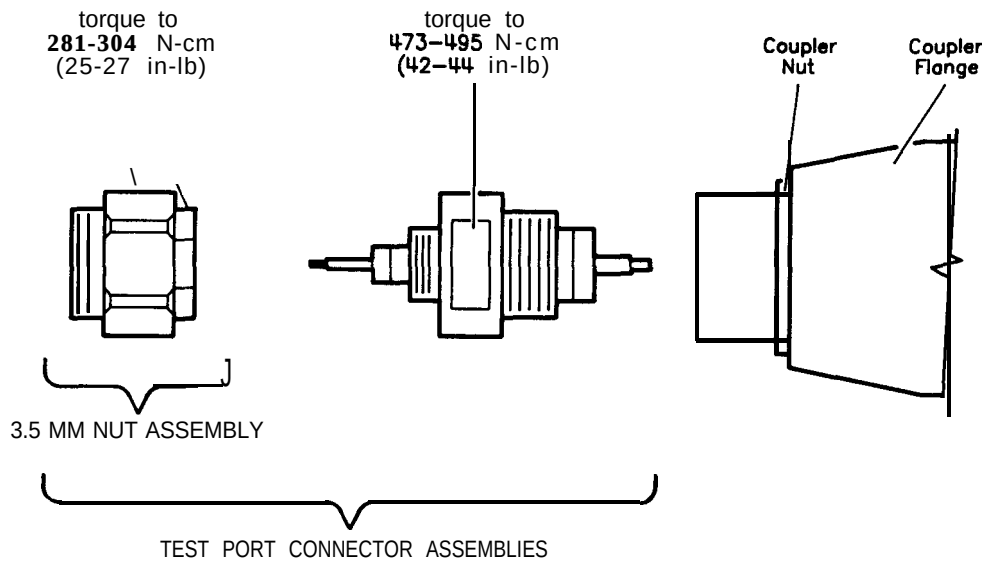

Figure 5-8. Exploded View Of the 3.5 mm Port Connector
Refer to Figure 5-8 and the following text to replace or repair these 3.5 mm test port connectors.
2. Replace with a new test port connector assembly using a $\frac{5}{8}$ inch torque wrench to the limits called out in Figure 5-8.
3. Torque with a $\frac{9}{16}$ inch torque wrench to the limits set in Figure 5-8.
(13) POWER TRANSFORMER